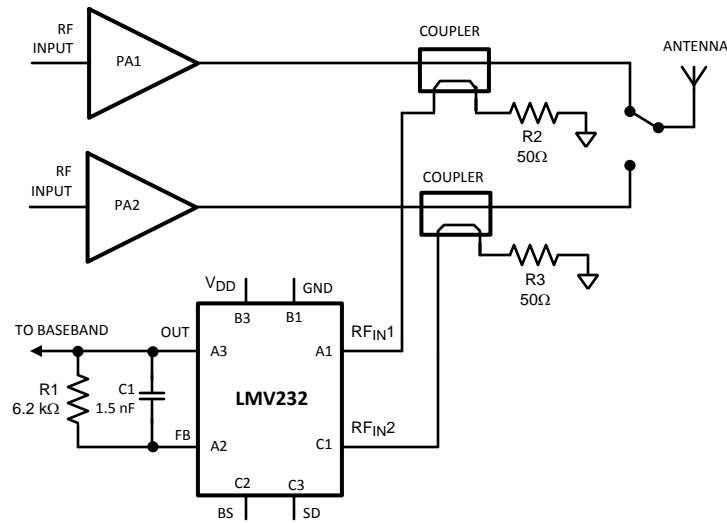

Figure 21. Typical Application
The LMV232 is especially suited for CDMA and WCDMA applications with 2 Power Amplifiers (PA's). A typical setup is given in Figure 21. The output power of one PA is measured at a time, depending on the bandselect pin (BS). If the BS = High RFIN1 is used for measurements, if BS = Low RFIN2 is used. The measured output voltage of the LMV232 is read by the ADC of the baseband chip and the gain of the PA is adjusted if necessary. With an input impedance of 50Ω, the LMV232 can be directly connected to a 20 dB directional coupler without the need for an additional external attenuator. The setup can be adjusted to various PA output ranges by selection of a directional coupler or insertion of an additional (resistive) attenuator between the coupler outputs and the LMV232 RF inputs.
These three sections are leading back to three error mechanisms. At higher power levels the detector output starts to saturate because the output voltage approaches the maximum signal swing that the detector can handle. The maximum output voltage of the device thus limits the upper end of the detection range. Also the maximum allowed ADC voltage of the baseband chip can limit the detection range at higher power levels. By adjusting the feedback resistor  $R_{FB}$  of Figure 21 the upper end of the range can be shifted. This is valid until the detector cell inside the LMV232 is the limiting factor.
The calibration measurement procedure can be explained with the aid of Figure 21, which depicts a typical power measurement setup using the LMV232. In normal operation, the two PA's in the setup will never be active at the same time. One PA will produce the required transmit power, while the other one is off, (disabled) and produces no power. The pedestal voltage should be measured in the absence of RF power. This can be achieved by switching the Band Select (BS) pin such that the LMV232 input is selected where the disabled PA is connected to. The pedestal voltage at no input power can be read at the output pin.